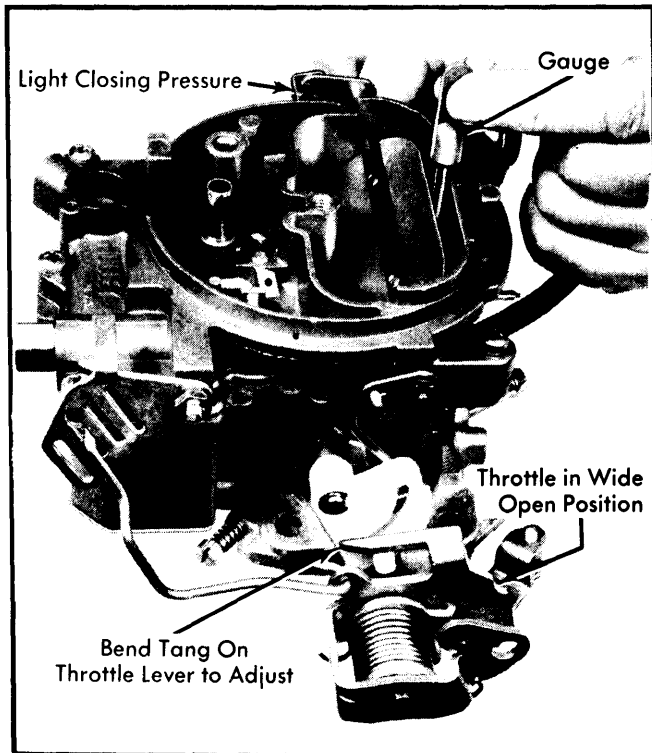

Fig. 6 Adjusting Choke Unloader
- 1) Hold throttle valves wide open. Measure specified clearance between upper edge of choke valve and air horn wall. Clearance can be checked using specified drill or pin gauge. See Fig. 6.